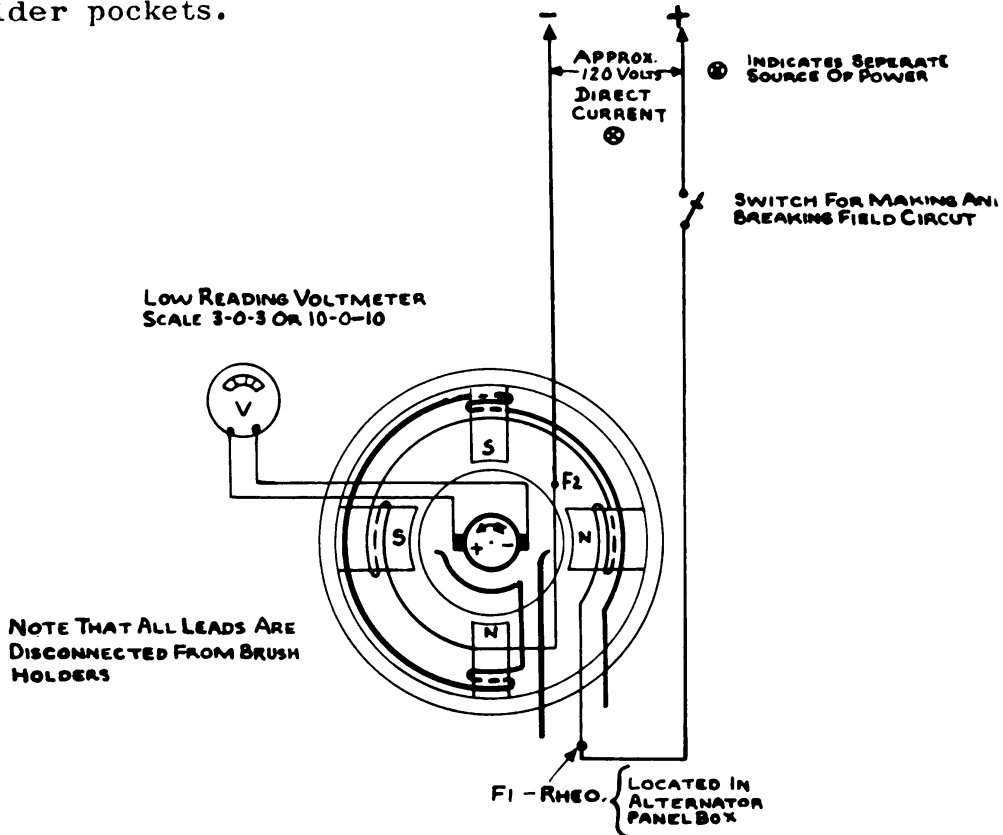
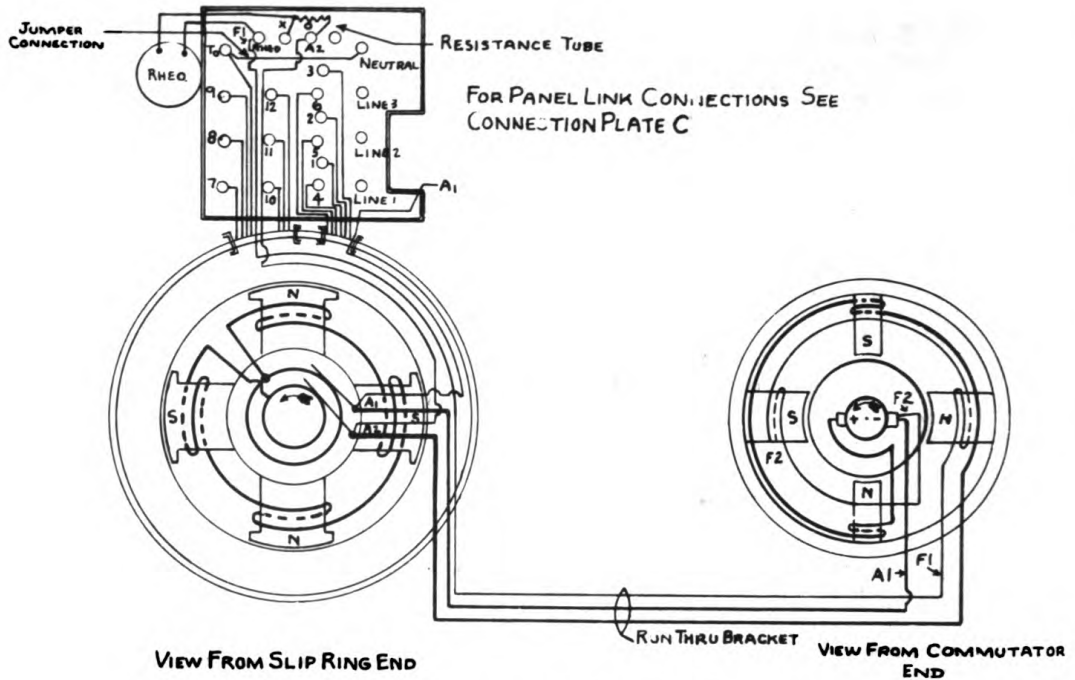

Figure 308. Kick Test Diagram for Brush Neutral.
Figure 309. Connection Diagram.
3. Connect the exciter shunt field leads F2 and RHEO-F1 across a separate direct current source of power having a potential of approximately 120 volts. This circuit should be provided with means of making and breaking the circuit quickly. See Figure 308. Shunt lead F2 will be one of the leads connected to the right hand brush holder pocket. Shunt lead RHEO-F1 is located inside the alternator panel box. See Connection Diagram Figures 309 and 307.
NOTE: If the exciter polarity is reversed upon completing the neutral brush setting, the exciter residual magnetism should be reversed by exciting the shunt field for a few seconds in the opposite direction: i.e. inter-change the two line leads shown on Figure 308.